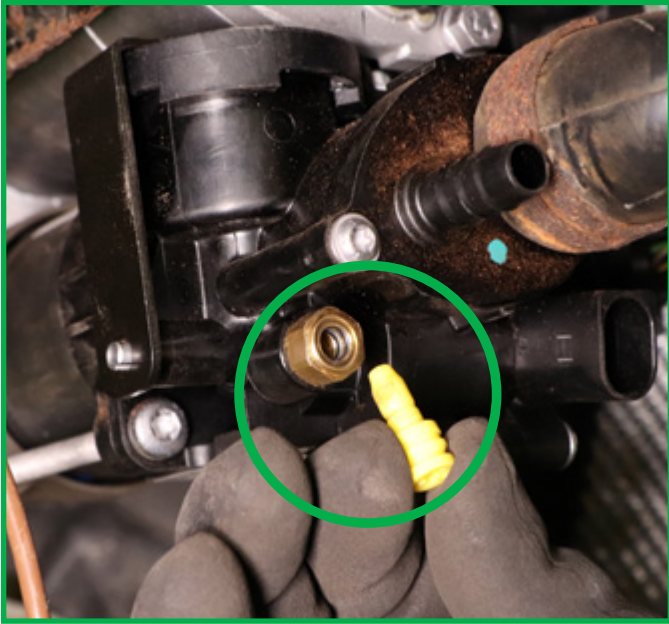

FIGURE 32
6. Remove the shipping pin from the VOSS air fitting on the compressor and the valve block. (Figures 32, 33)